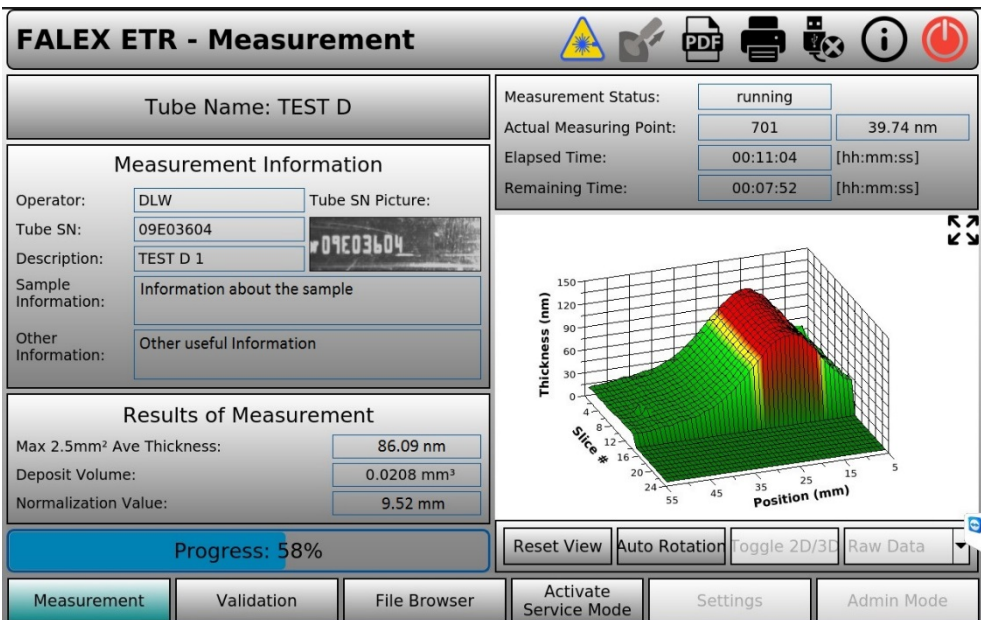

Figure 2-3 – Measurement display
7. The measurement progress can be monitored from the 'Measurement' display (figure 2-3) by referring to the 3D graph, the associated progress bar and the remaining time status.